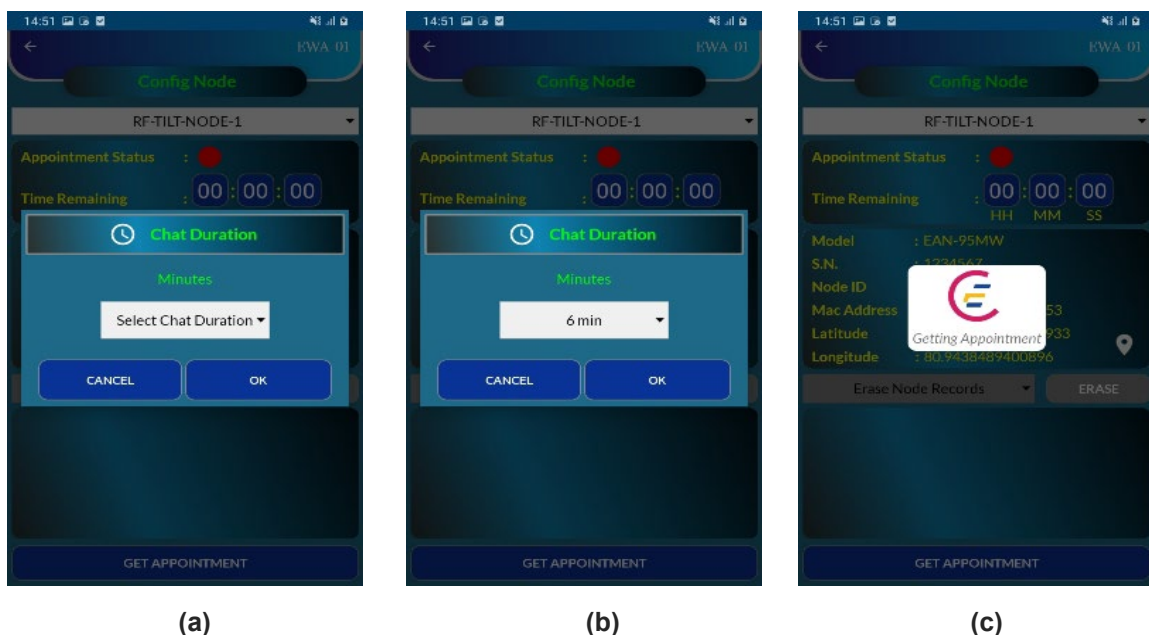

Figure 7-4
- Click on the "GET APPOINTMENT" tab to establish a live connection with the chosen node. Please refer to the images in figure 7-4 for detailed instructions on obtaining an appointment from the node.